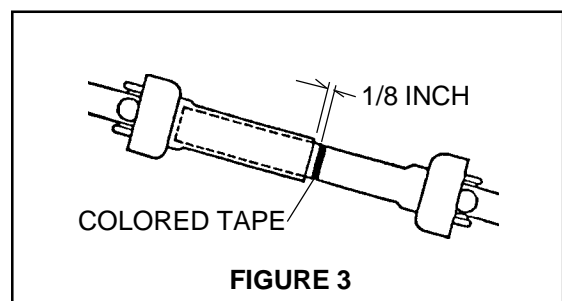

FIGURE 3
- \* Apply colored tape to the Inner Shield 1/8" from the end of the Outer Shield. **FIGURE 3**